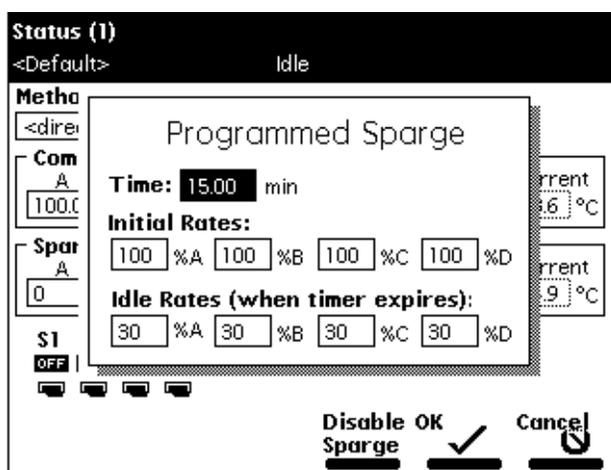

Figure 2-8 Programmed Sparge Dialog Box
2. Select the **Program Sparge** option, then press **Enter**. The Programmed Sparge dialog box appears (Figure 2-8).